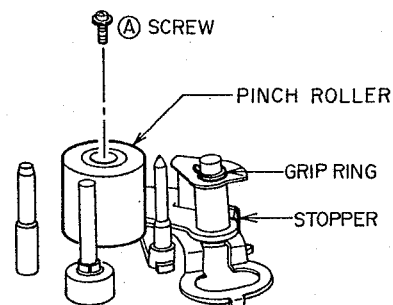

Fig. 3-17
- 1) Remove the Ⓐ screw, then remove the PINCH ROLLER part, as shown in fig. 3-17